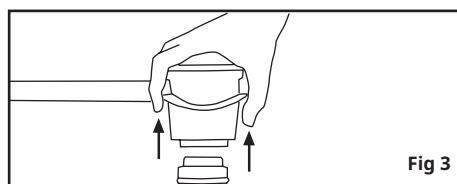
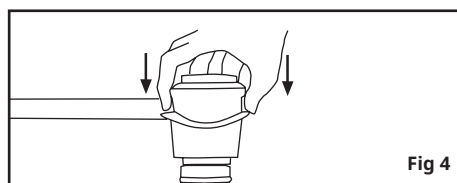

Fig 3
Fig 4
- Pull the ring (3) upwards as shown in figure 3 and fit the KOSAN type 682 onto the valve. Afterwards give the ring (3) a strong push downwards as shown in figure 4. A "CLICK" should be heard, meaning the regulator has been correctly fitted.